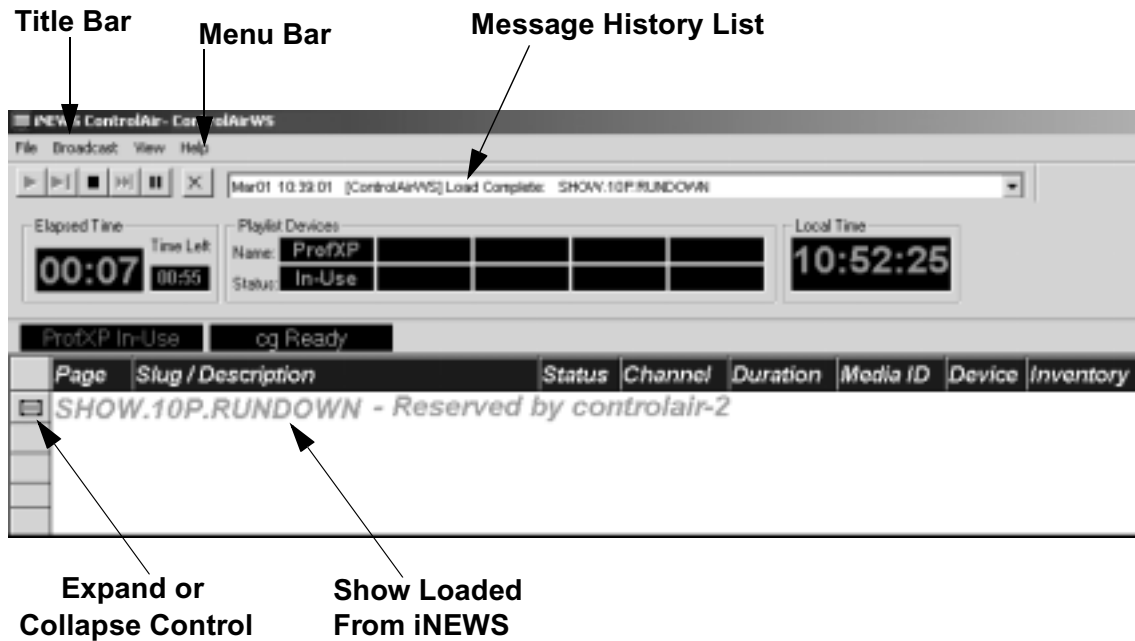

Figure 14 ControlAir Workstation GUI
The ControlAir Workstation graphic user interface (GUI) is shown in Figure 14.
- Clear Error Log—clears errors from the Message History list, shown in Figure 14.
To verify confirmation of the playlist reservation, **Reserved by controlair - 2** now appears next to the show name, as shown in Figure 14 on page 4-37.